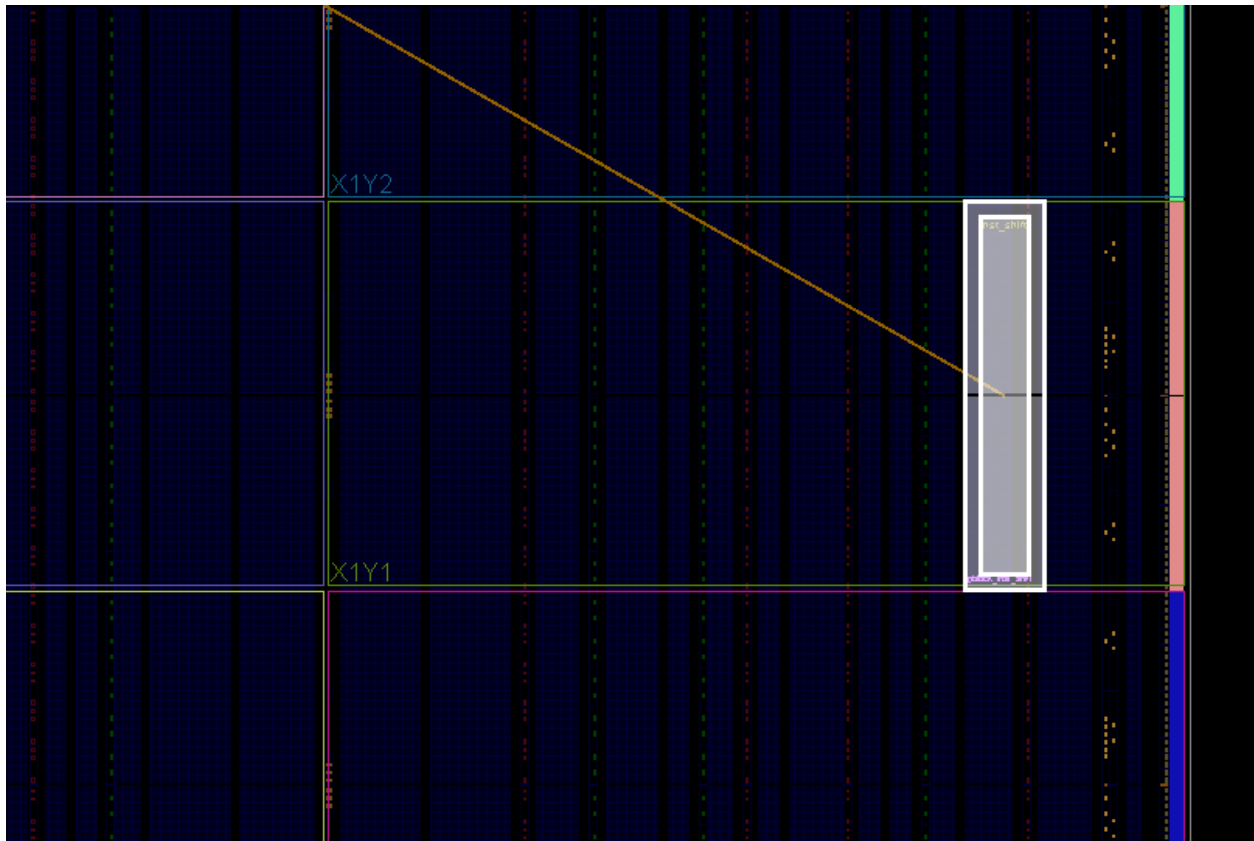

Figure 4: Pblock for the aligned `inst_shift` Reconfigurable Partition
- To resolve the first DRC error, make sure that the height of the Pblock aligns with the clock region boundaries. Using the Pblock for `inst_shift`, stretch the top and bottom edges to match the clock region boundaries of X1Y1 as shown in **Figure 4**. Note that the shading of the Pblock is now more uniform.